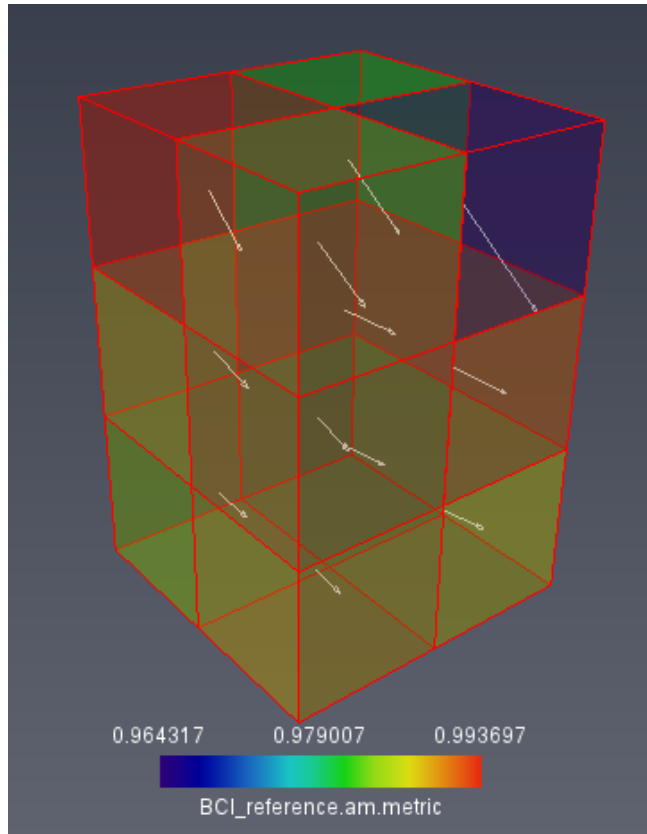

Figure 19.9: Metric Map and Displacement Vectors
- Visualize the displacement vectors by attaching a *Vector Field* module to *BCI_reference.disp*. Set the *Scale* port to 25 (open more options on *Scale* port line, and change *Max value* setting to 25), *Coloring* port to *Uniform* and select the white color from the port *Uniform color* (see Figure 19.9).